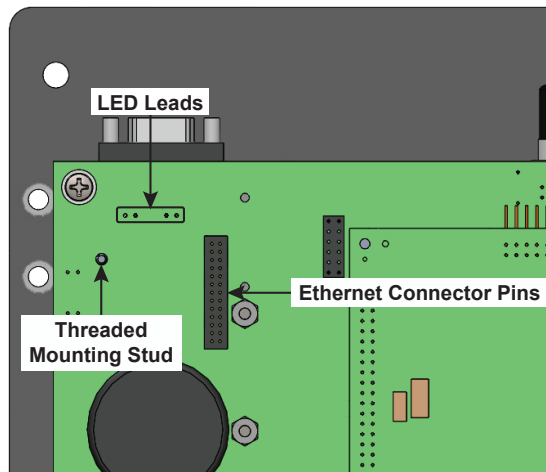
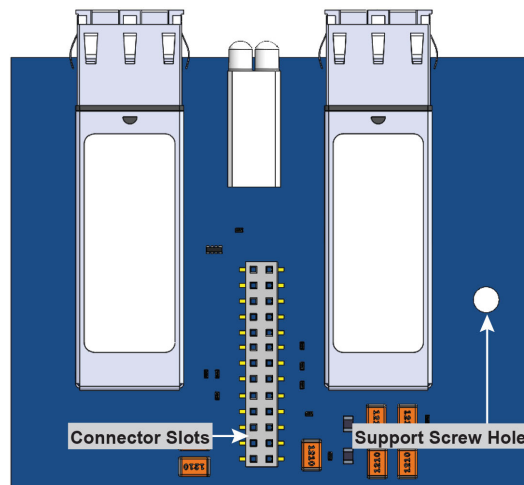
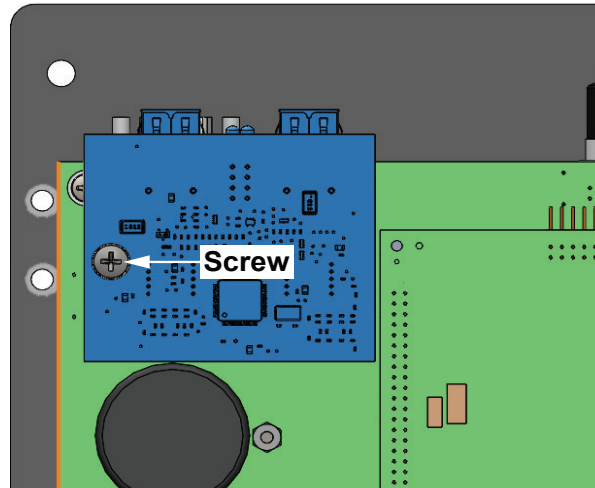

Figure 5-2 Main PCB, Upper-Left Corner
Figure 5-3 Bottom of Dual-Ethernet Fiber Optic Board, Connector Orientation
Figure 5-4 Main PCB, Dual-Ethernet Fiber Optic Board Installed
1. Locate the Ethernet connector pins and threaded mounting stud (Figure 5-2) on the upper left-hand corner of the main PCB.
3. Observing the orientation of the connector slots (Figure 5-3) on the Dual Ethernet board, mount the fiber board onto the Ethernet connector pins (Figure 5-2) of the main PCB.
■ **NOTE:** Verify that the fiber connector on the Ethernet board does not contact the LED leads (Figure 5-2) protruding from the main PCB. If the LED leads contact the connector, perform the following:
4. Install one 4-40 x 1/4 screw into the standoff through the Ethernet board support screw hole (Figure 5-3). Figure 5-4 shows the Ethernet board properly mounted.